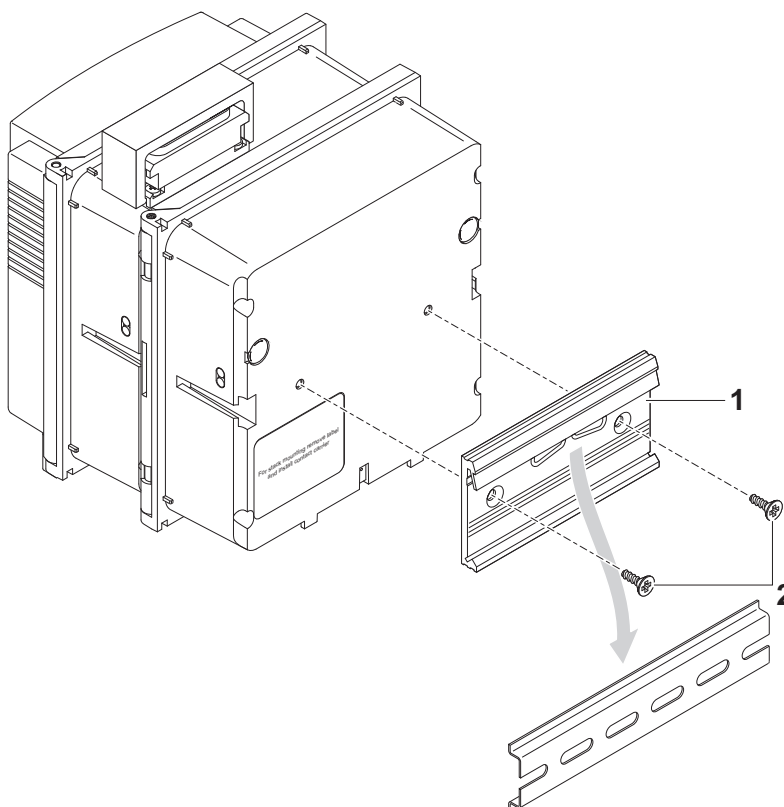

Fig. 3-21 Mounting the DIQ/S 182-XT-4-PR on a top hat rail
1	Screw the clamping assembly (item 1 in Fig. 3-21) with the two plastic self-tapping screws (item 2) onto the back of the DIQ/S 182 XT-4-PR.